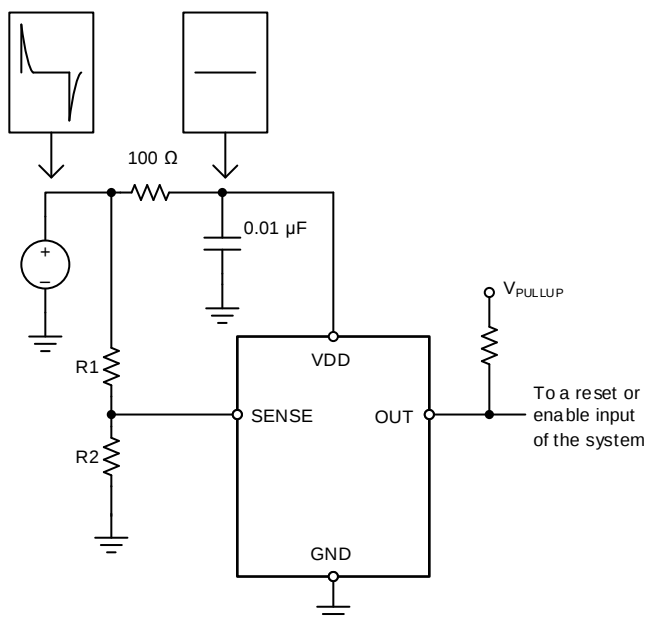

图 17. Using an RC Filter to Remove High-Frequency Disturbances on VDD
The TPS3711 has a 40-V absolute maximum rating on the VDD pin, with a recommended maximum operating condition of 36 V. If the voltage supply that provides power to VDD is susceptible to any large voltage transient that may exceed 40 V, or if the supply exhibits high voltage slew rates greater than 1 V/ μ s, then place an RC filter between the supply and VDD to filter any high-frequency transient surges on the VDD pin. In these cases, a 100- Ω resistor and 0.01- μ F capacitor are required, as shown in Figure 17.
- Avoid using long traces for the VDD supply node. The VDD capacitor (C_{VDD}), along with parasitic inductance from the supply to the capacitor, might form an LC tank and create ringing with peak voltages above the maximum VDD voltage. If long traces are unavoidable, see 图 17 for an example of filtering VDD.